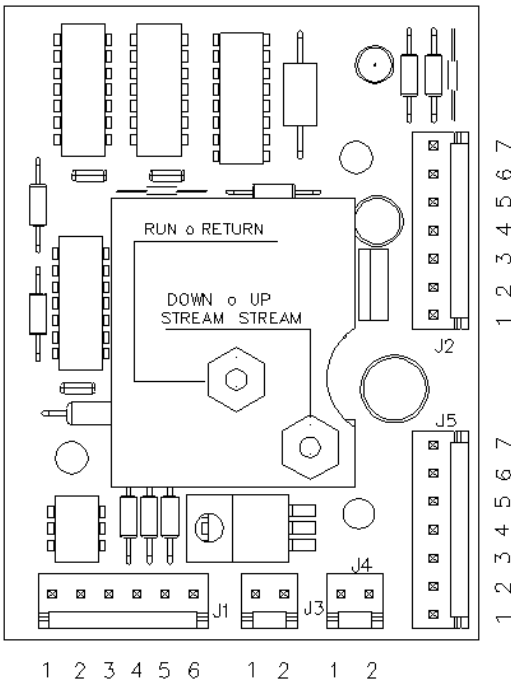

Figure 1. Old-Style 12 VDC Board
4. Note positions of connection plugs as they are in different locations on the new 12/24V board design. See Figure 1 and 2 for assistance. Remove plugs J1 - J5 from existing interface board (not all connections may be used).